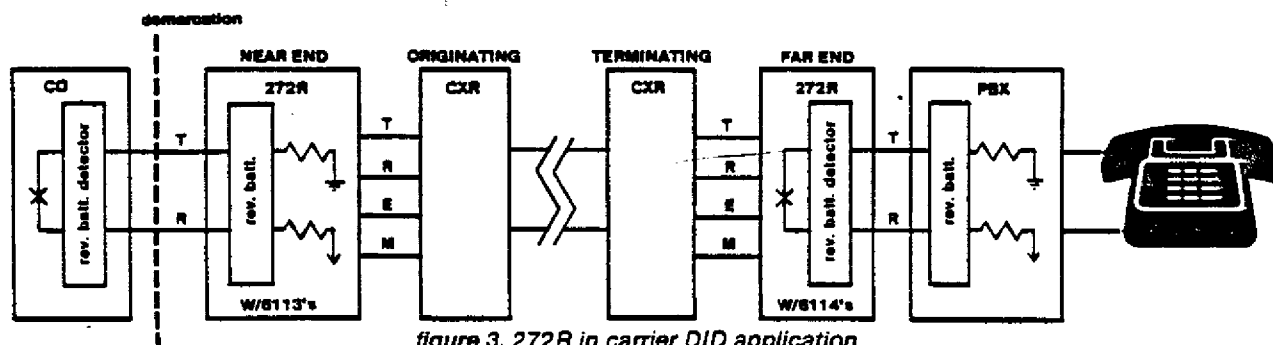

figure 3. 272R in carrier DID application
1.05 The 272R, when equipped with the 6114 module, performs loop-to-E&M conversion when DID is used with a 2wire carrier facility, as shown in figure 3 (far-end 272R). The near-end 272R interfaces a 2wire loop trunk from a CO to the originating 2wire E&M carrier channel circuit and provides M-lead battery to the originating carrier circuit in response to a loop closure from the CO. The terminating carrier circuit then provides an E-lead ground to the far-end 272R which, in turn, provides tip-and-ring closure to the PBX. The CO then sends dial pulses to the PBX via the 272R units and the carrier facility. The tip-and-ring loop to the PBX is pulsed by the far-end 272R unless DTMF dialing is used, in which case multifrequency tones are passed to the PBX, which then decodes the dialing information and rings the station. When the called party answers, the PBX provides reverse battery to the far-end 272R, which, in turn, provides M-lead battery to the terminating carrier circuit. The originating carrier circuit then provides E-lead ground to the near-end 272R, which reverses battery to the CO. If the calling party disconnects first, the CO opens the loop, causing the near-end 272R to send a ground on the M lead and also causing the far-end 272R to open the loop. If the called party disconnects first, the PBX returns the tip-and-ring polarity to normal causing the far-end 272R to remove the battery from the M lead and causing the near-end 272R to return the tip and ring leads to their non-reversed state. The CO recognizes this as called party disconnect and opens the loop. See table 1 for a complete summarization of this protocol.